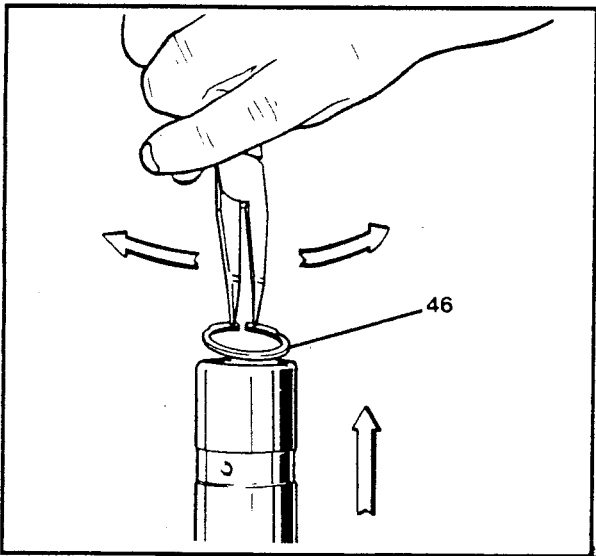

Figure 5-22. Valve Circlip Removal
1. See Figure 5-22. Remove the circlip (46) with circlip pliers. Pull the valve unit out of the tube in the same sequence as shown.